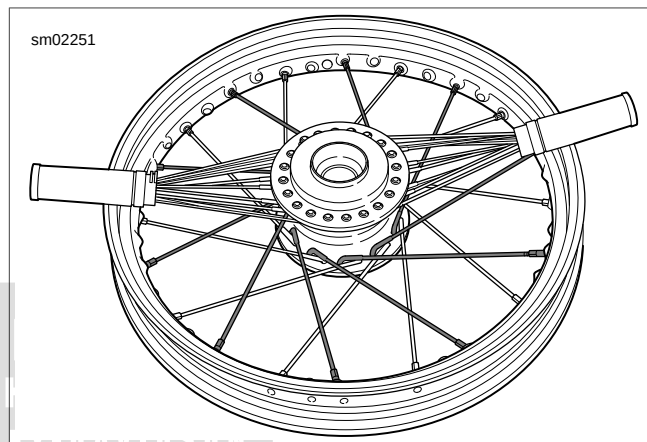

Figure 2-37. Completed Spokes: Bottom Flange Inner
- b. See Figure 2-37. Verify inner spoke reaches spoke nipple and secure spoke loosely by hand. Skip every other hole and repeat lacing. Follow pattern to complete bottom row inner spokes (long head).